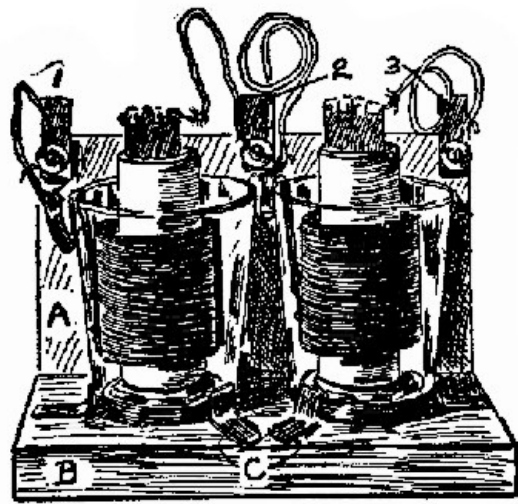

Fig. 8.
**10. Two-fluid Battery.** Fig. 8. When two or more cells are joined together the combination is called a battery. Fig. 8 shows two experimental cells joined in series. (Study methods of joining cells.) For convenience, and to keep them from being easily overturned, a frame has been made for them. The base, *B*, is  $8 \times 4 \times \frac{7}{8}$  in. To the back of this is nailed the upright board, *A*,  $8 \times 4\frac{1}{2} \times \frac{1}{2}$  in. On the top of *A* are 3 binding-posts, 1, 2, 3, which consist of metal strips  $1\frac{1}{4} \times \frac{1}{2}$  in. At the lower ends are screws which are connected with the cells, as shown. Spring binders can be easily slipped on and off the upper ends of the strips, so that one or two cells can be used at will. Bent strips, *C*, are nailed to *B*, to hold the tumblers firmly in place. This framework is not necessary, of course, to the proper working of the battery, but with it you are much less liable to upset the cells.